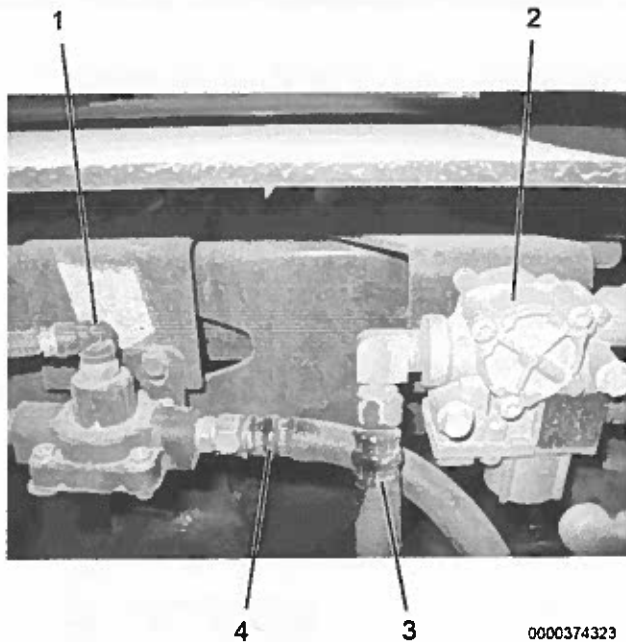

Figure 5. Valve and Hose Installation
20. Install chamber service hose (Figure 5, Item 3) to ABS modulator valve (Figure 5, Item 2).
21. Install chamber spring brake hose (Figure 5, Item 4) to quick release valve (Figure 5, Item 1).